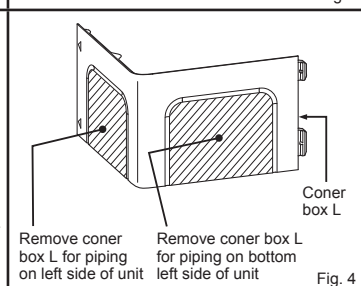
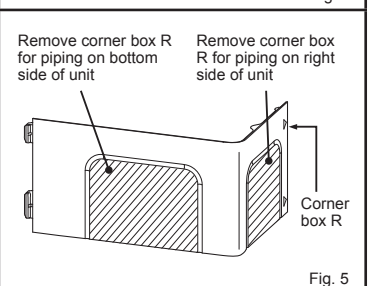

Fig. 4
Fig. 5
- 10) According to the piping direction, remove the shaded part of the corner box L (Fig. 4) or corner box R (Fig. 5). Reinstall electrical cover, corner box R and front panel.
- Insert the drain hose fully into the drain pan at the back right of the indoor unit. (Fig. 4)
- Insert the drain hose into wall hole sleeve (C), and attach the upper part of indoor unit onto the installation plate (1). Then, shift the indoor unit completely to the left to make placing the piping in the back of the unit easier.
- Cut out a piece of cardboard from the shipping box, roll it up, hook it onto the back rib, and use it as a spacer to lift the indoor unit. (Fig. 5)
- Connect the refrigerant piping with the extension pipe (B).
- Attach the lower part of the indoor unit into the installation plate (1).
- 4) Flaring work (Fig. 4, 5). Firmly hold copper pipe in the dimension shown in the table. Select A inch (mm) from the table according to the tool you use.